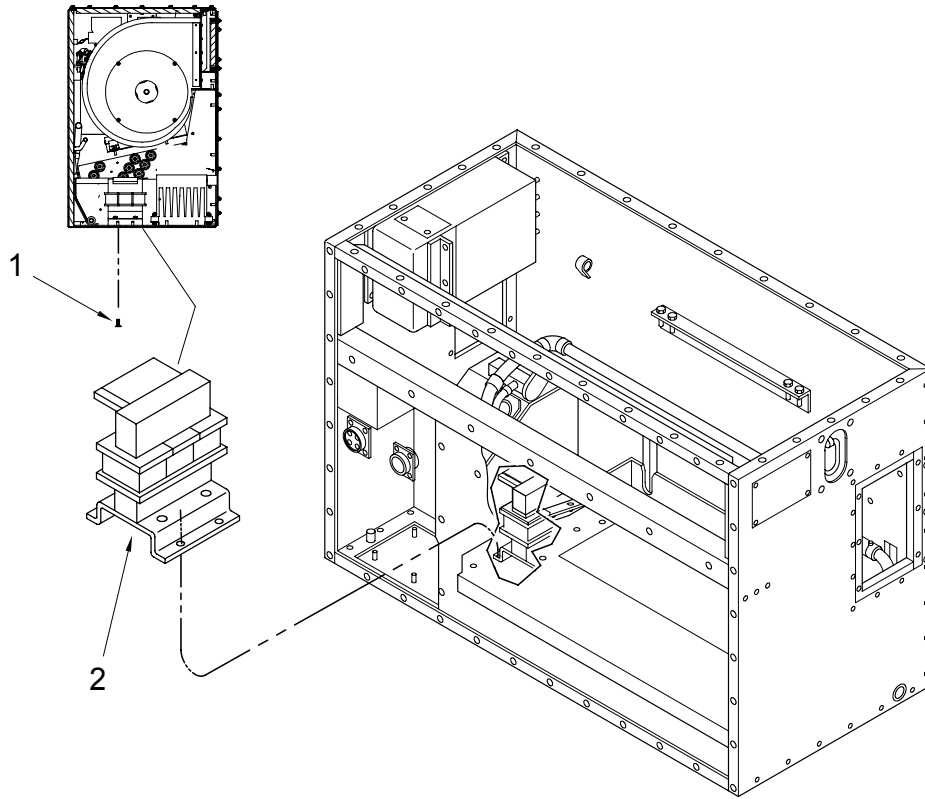

Figure 1. HARMONIC FILTER ASSEMBLY FL2.
1. Remove screws (1) from the bottom of the evaporator securing the harmonic filter assembly (2). Retain screws for installation. See Figure 1.
4. Carefully slide the harmonic filter assembly (2) out the top of the evaporator assembly. Figure 1.